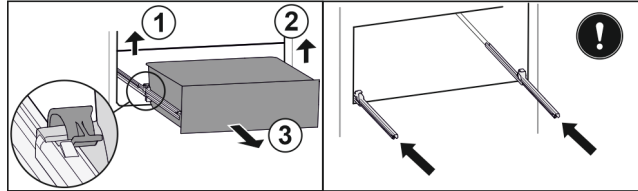

Fig. 104
- ▶ Lift left clamp and simultaneously pull drawer forwards on the left. Fig. 104 (1)
- ▶ Lift right clamp and simultaneously pull drawer forwards on the right. Fig. 104 (2)
- ▶ Remove drawer to the front. Fig. 104 (3)